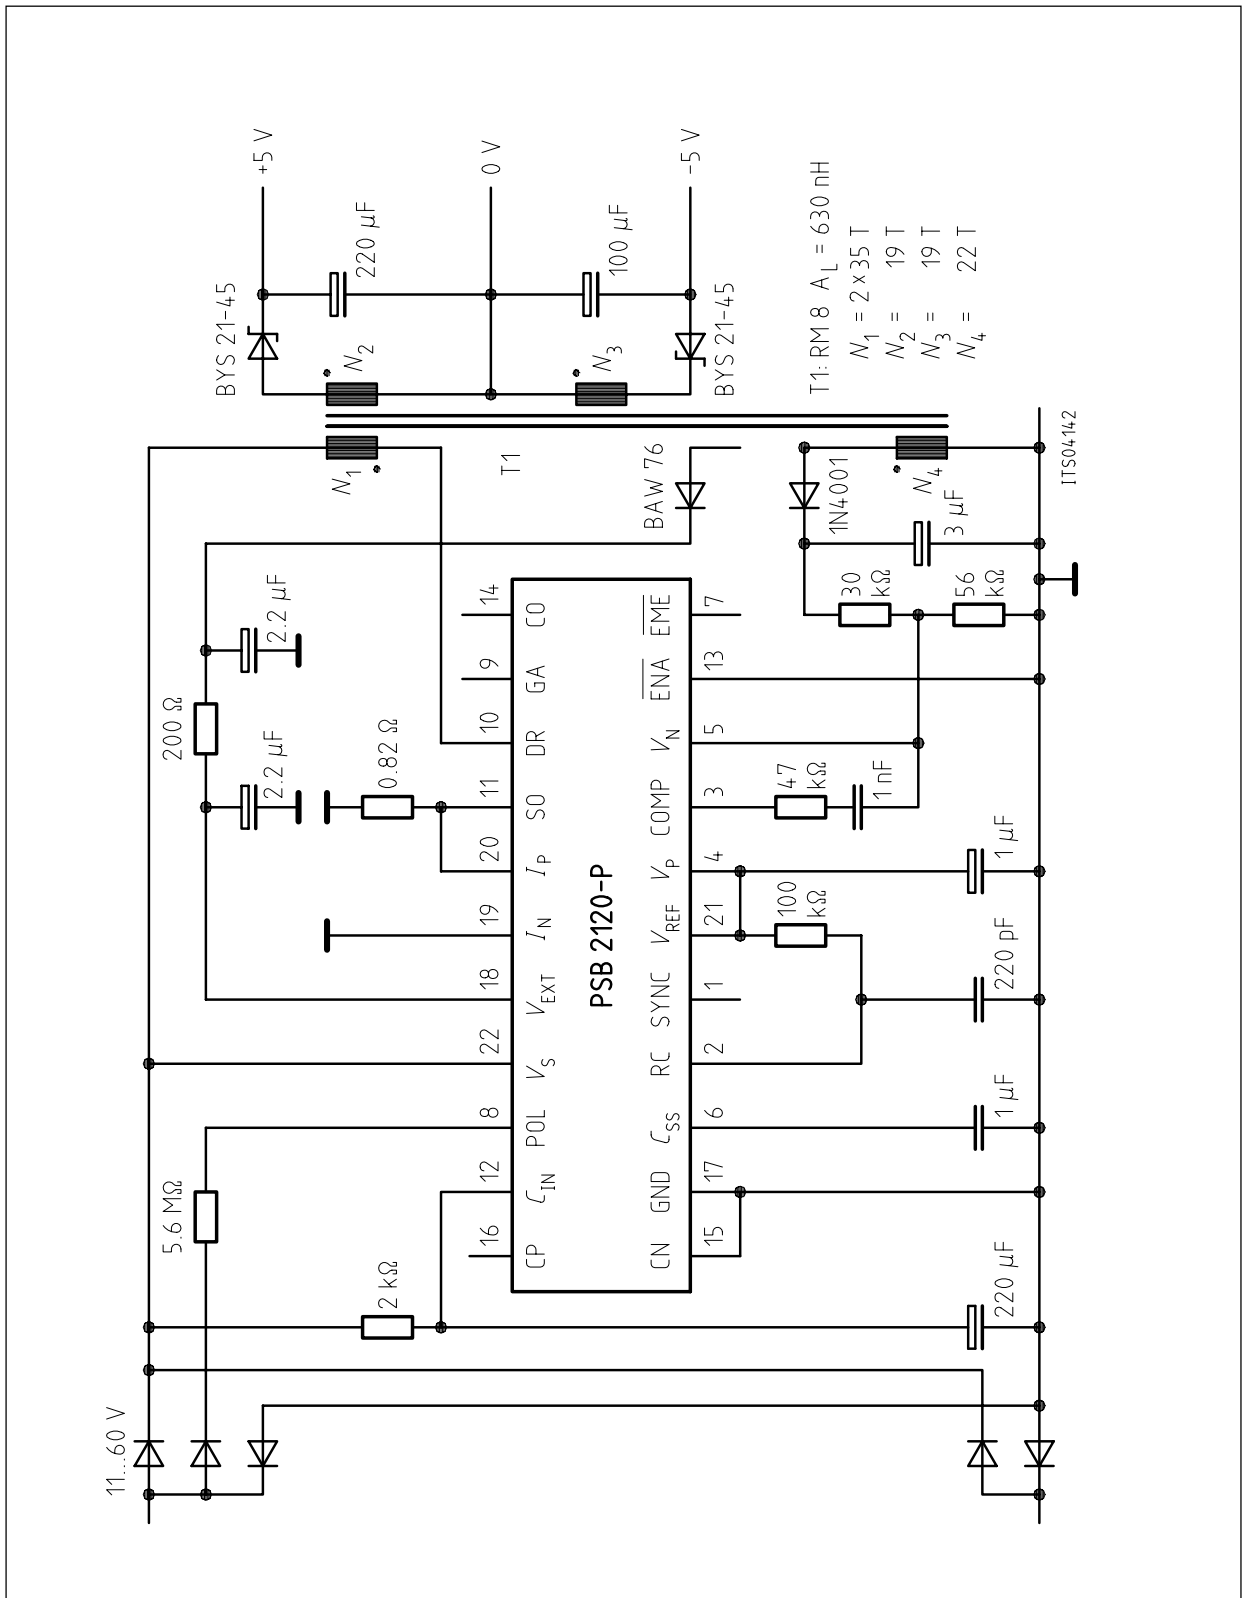

Figure 8
**Figure 8** shows the PSB 2120 in flyback configuration with transformer isolation.